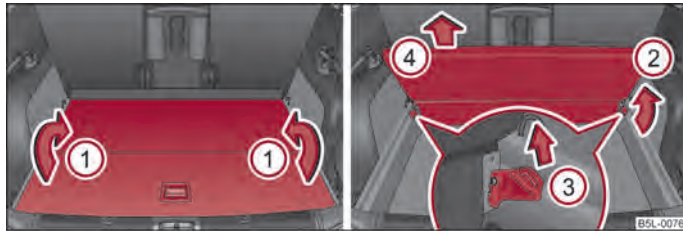

Fig. 63 Luggage compartment: Fold up variable loading floor/remove
- You can fold together the loading floor by moving it in direction of arrow ① ⇒ fig. 63.
- Raise the variable loading floor in direction of arrow ② ⇒ fig. 63.
- Pull on both sides of the locking levers in direction of arrow ③ ⇒ fig. 63.
- Pull the variable loading floor up and out in direction of arrow ④.